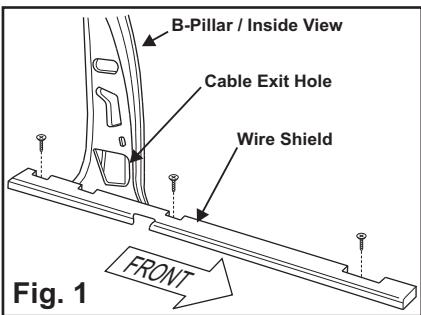

Fig. 1
- Locate the mounting foot and locking plate included with your lightbar. If not already present, install the locking plate onto the mounting foot using the supplied allen set screws (Fig. 1).
- Turn the lightbar upside down and tighten all of the mounting foot allen head set screws (Fig.4) to 14-16 In. Lbs. With the lightbar upside down, drill 2 holes into the mounting foot (for the mounting bolts) using the holes in the mounting pads as guides, in the location shown in figure 1.
6. Route the cables down through the B-pillar taking a 90° turn to enter the B-pillar. Pull the full length of the cables out of the hole at the base of the B-pillar (Fig. 1) and route towards your switch panel.
- Open the wiring shield lid (Fig. 1) and route the power cable into the wiring shield and towards the firewall.